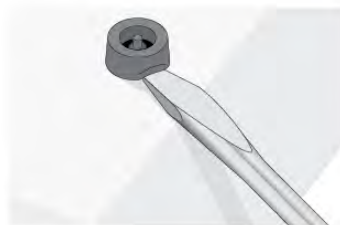

Figure 13. Removing the Feet
2. Using a flat-head screwdriver, remove the snap-on plastic feet from the bottom of the switch, as shown in Figure 13.